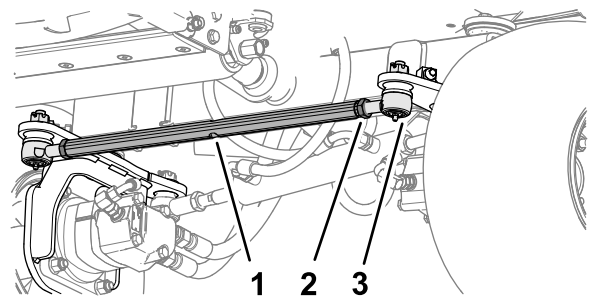

Figure 64
2. Align the wheels by rotating the track rod (Figure 64).
5. Tighten the 2 jam nuts to secure the track rod assembly and the rod ends (Figure 64).
1. At the front of the rear wheel, loosen the 2 jam nuts securing the track rod assembly to the rod ends (Figure 64).